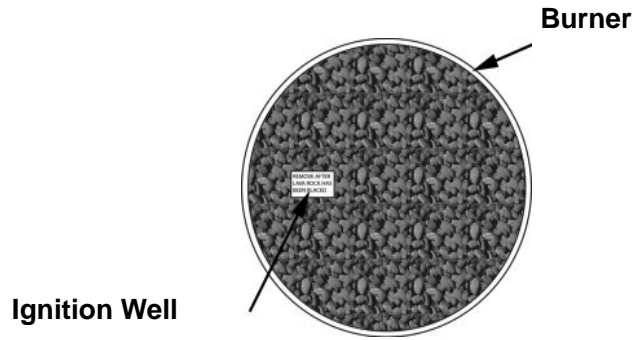

Figure 11
11. Pour the lava rocks into the pan completely covering the burner. See Figure 11.